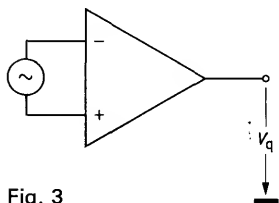

Fig. 3
- d) Open-loop voltage gain G_v is the voltage gain without negative feedback from the output to the input (Fig. 3).